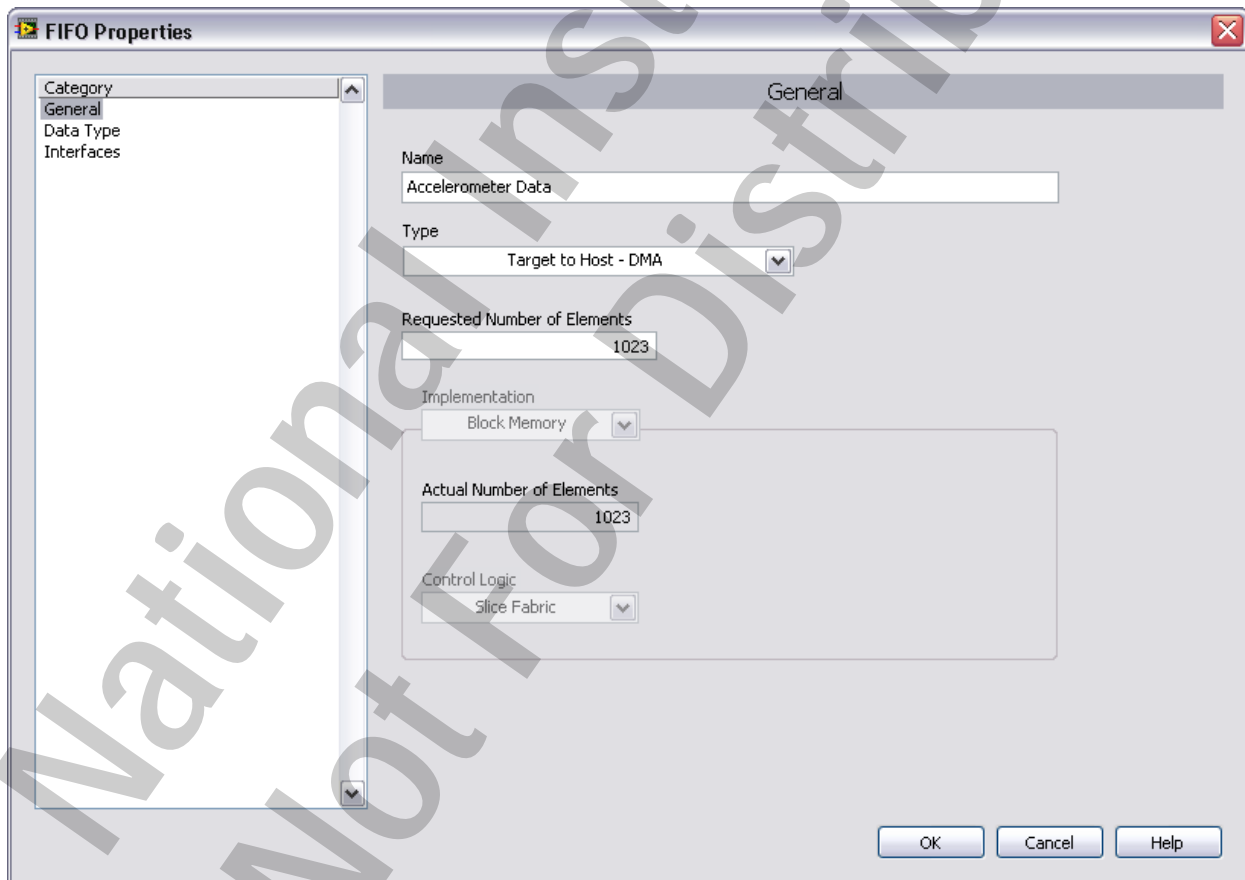

Figure 9-9. Accelerometer Data Properties – General
- ☐ Configure the FPGA FIFO Properties, as shown in Figure 9-9.